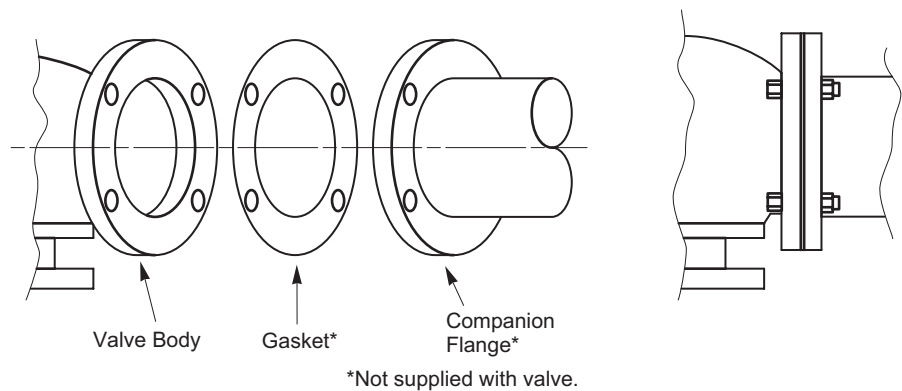

Figure-5 Installation of Flanged End Valves
4. See Figure-5 for flange and flange bolt details. Figure-5 also shows the proper way a flanged valve should be mounted.